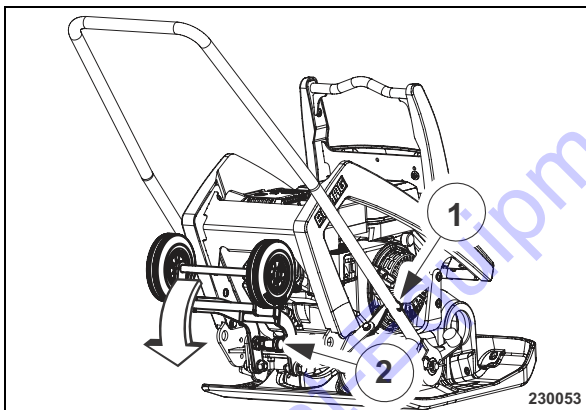

Fig. 38
- Lock the steering handle with the the hook (Fig. 38).
- Unlock the safety bolt (2) and fold down the transport wheels.